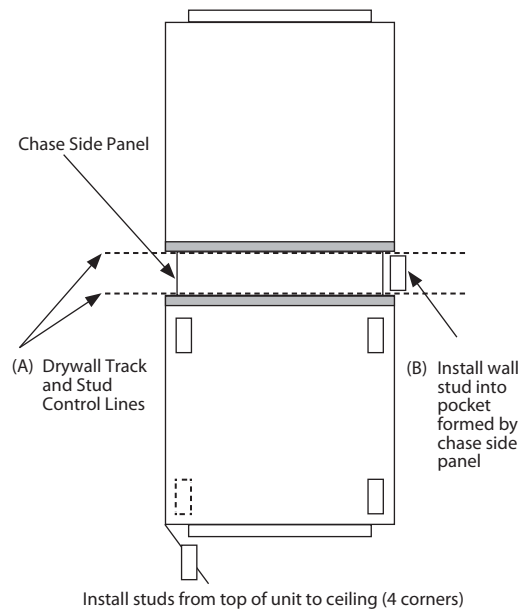

Figure 14 – Unit As Shipped
The control lines for the drywall track and studs should be laid out in the floor and ceiling (A) (see Figure 14).
Next, position the vertical studs and fasten into each of the stud pockets formed into the chase side panels (B) (see Figure 14).